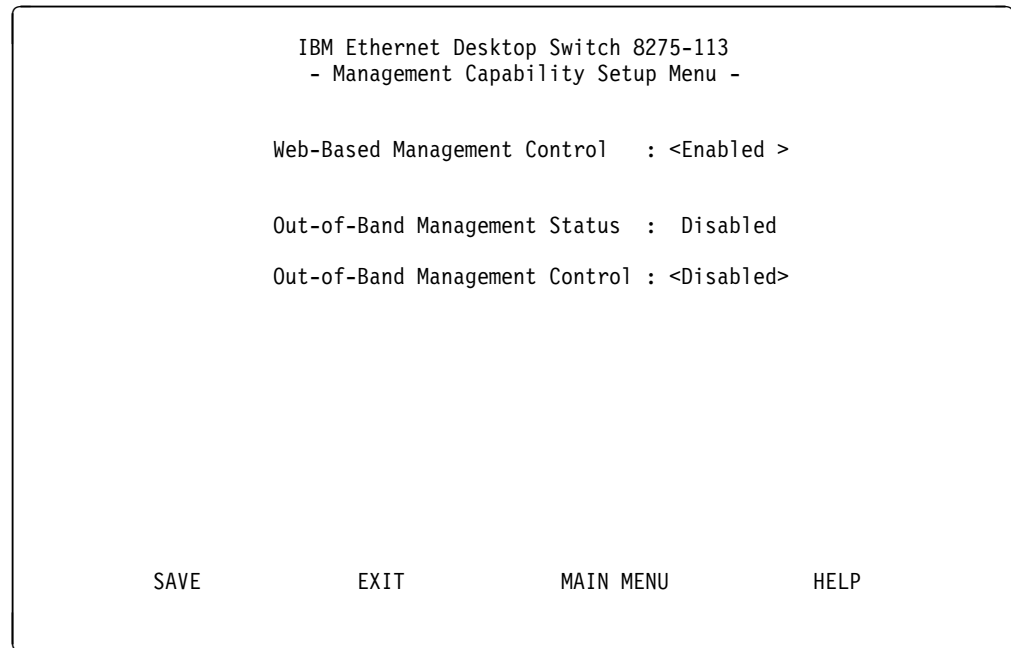

Figure 4-12. Management Capability Setup Menu
- Telnet into the Ethernet Desktop Switch, disable Out-of-Band management using the Management Capability Setup Menu (see Figure 4-12 on page 4-13), and restart the switch.
disable Out-of-Band Management using the Management Capability Setup Menu (see Figure 4-12 on page 4-13) and restart the switch.
Selecting this option displays the Management Capability Setup Menu shown in Figure 4-12.